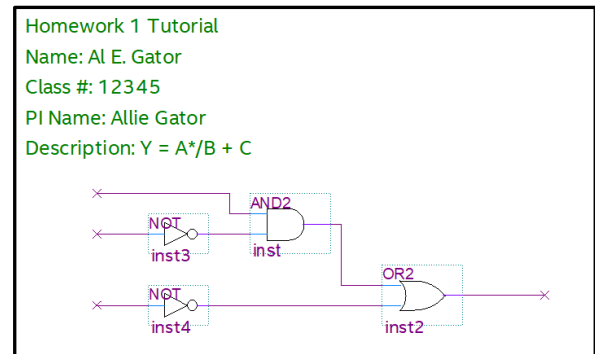

Figure 3: BDF with wires
6. Add the rest of the wires needed to connect the logic diagram. Add small input lines where the three inputs will be placed and an output line where the output will be placed. Your bdf should look similar to Figure 3.